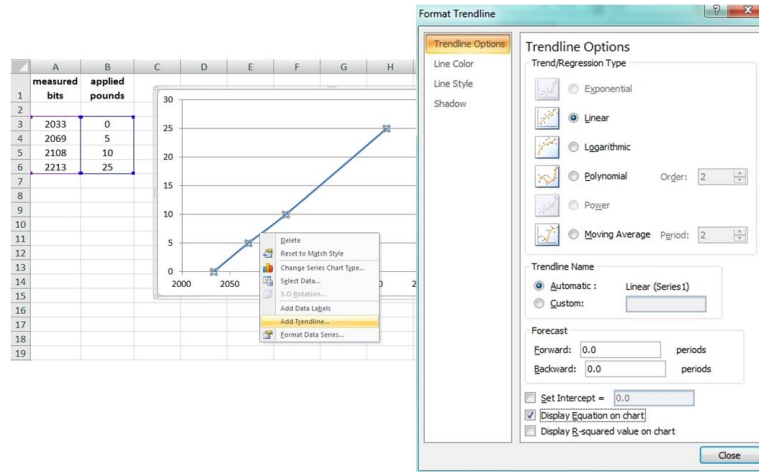

Figure 40 - Plot Trendline
- Designate the line as Linear, and check the option to Display the Equation on the chart (*Figure 40 - Plot Trendline*).